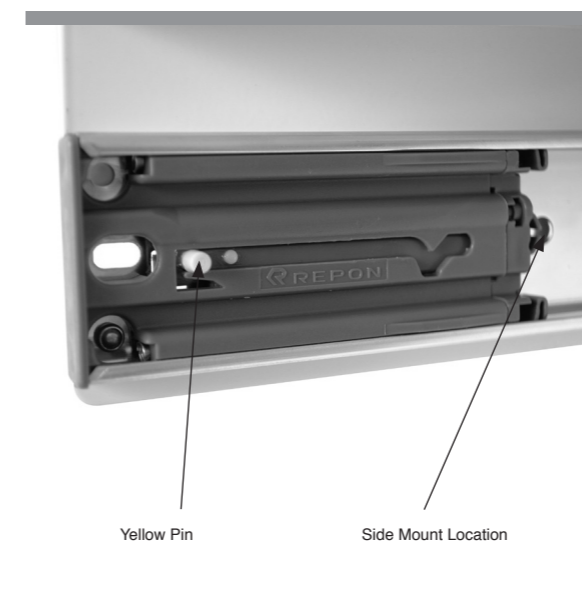

FIG 3
- Push the outer rail fully into the mounting panel. The soft close device will need to be released by manipulating the yellow pin on each runner. Refer FIG 3.